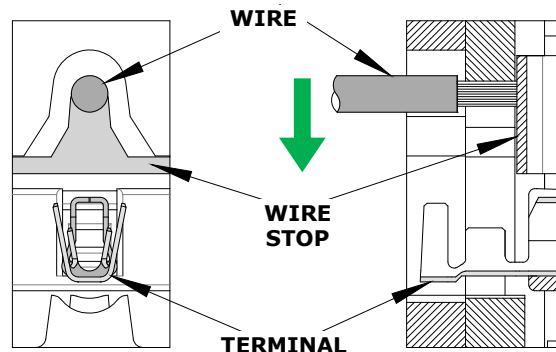

Figure 7
7. Start the crimp cycle by squeezing the tool handles. Allow the tooling to lower the stripped wire into the uncrimped terminal until the ratchet mechanism cycle has been completed. See Figure 7. Release the handles to open the jaws.